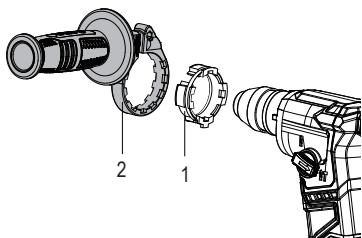

Fig.2
The auxiliary handle (2) can be installed at different angled positions according to user's needs. To install, push the spacer (1) on to the base of the chuck and make sure it is secured. Fit the auxiliary handle (2) on the spacer (1) and rotate until it is firmly in place (Fig.2).